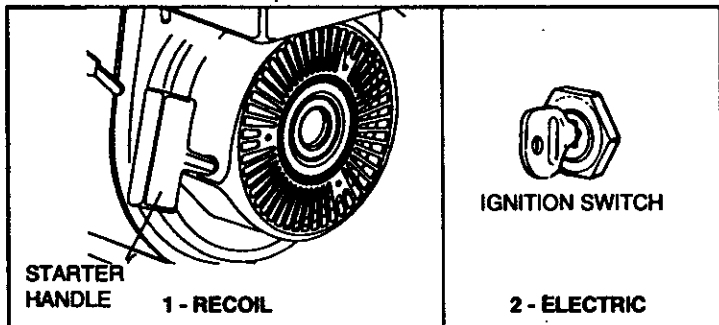

Figure 2
① RECOIL STARTER (see Figures 2 and 3):
- C. Grasp starter handle (see Figure 2) and pull rope out, slowly, until it pulls slightly harder. Let rope rewind slowly. Then pull rope with a rapid full arm stroke. Let rope rewind SLOWLY. Do not let starter handle snap back against starter.
② ELECTRIC STARTER (see Figures 2 and 3):